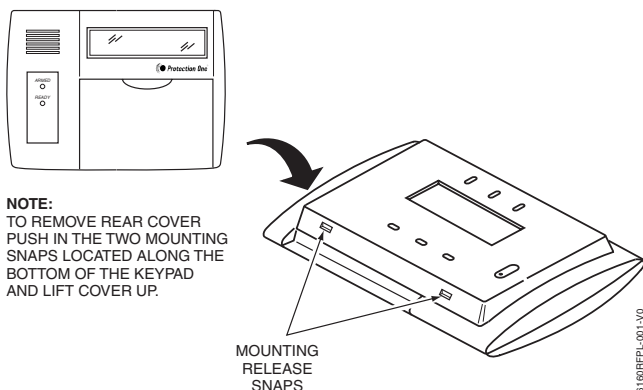

Figure 1. Removing the Case Back
1. Detach the case back by pushing up into one of the two slots at the bottom of the keypad with the blade of a small screwdriver (this will push in the release snap), then pull that side of the case back away. Repeat for the other side. Refer to Figure 1 for location of the case back release snaps.
FUNCTION KEYS (refer to Figure 1)